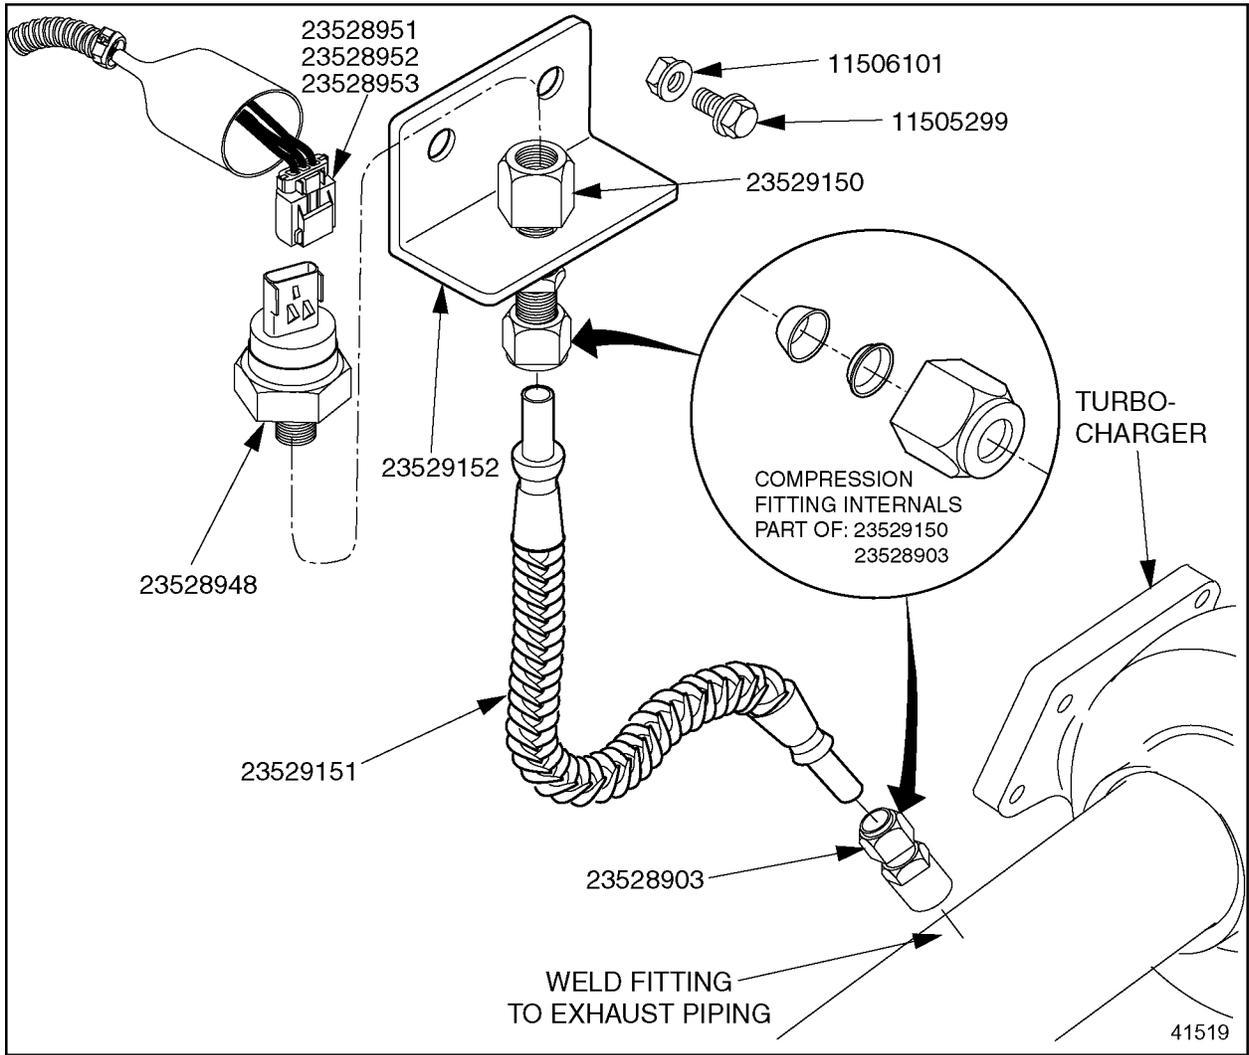

Figure 2. Installation of Exhaust Back Pressure Sensor Kit
1. The fitting material is stainless steel 316; use the appropriate rod to weld it in the selected location on the exhaust tubing. See Figure 2.
1. Orient the bulkhead fitting mounting bracket as indicated above and mount in the selected location using the two (2) flange-head bolts and nuts. See Figure 2.
1. Completely insert the steel-braided hose end into the compression fitting on the bulkhead fitting. See Figure 2.